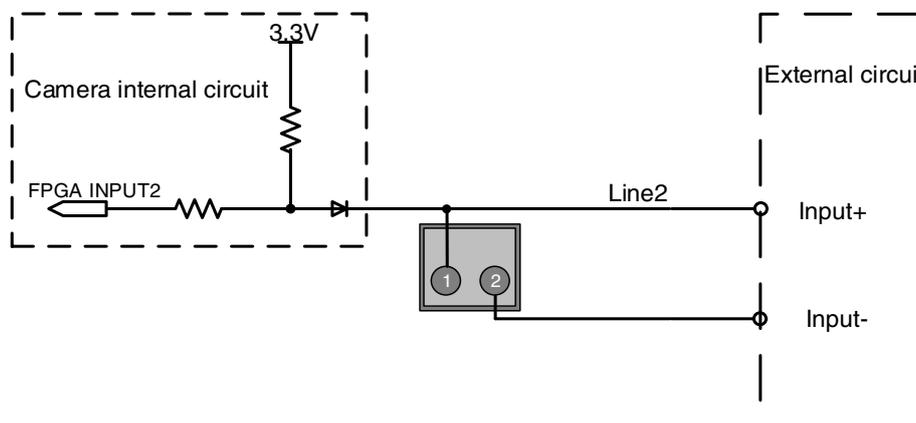

Figure 7-22 Internal equivalent circuit when Line2 configured as input
- When configuring Line2 as input pin, the internal equivalent circuit of the camera is shown in Figure 7-22